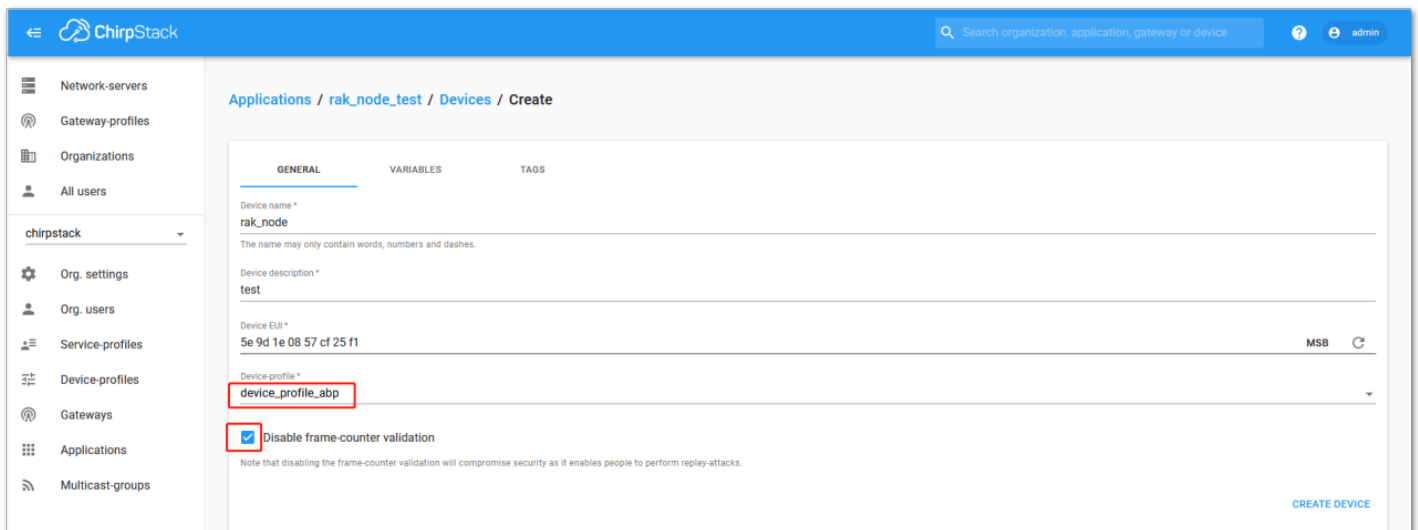

Figure 223: ChirpStack Console, Configuring a Device
1. During the registration of a new device, if you select **DeviceProfile_ABP**, as shown in **Figure 223**, then the ChirpStack platform will assume that this device will join the LoRaWAN network using the ABP mode.